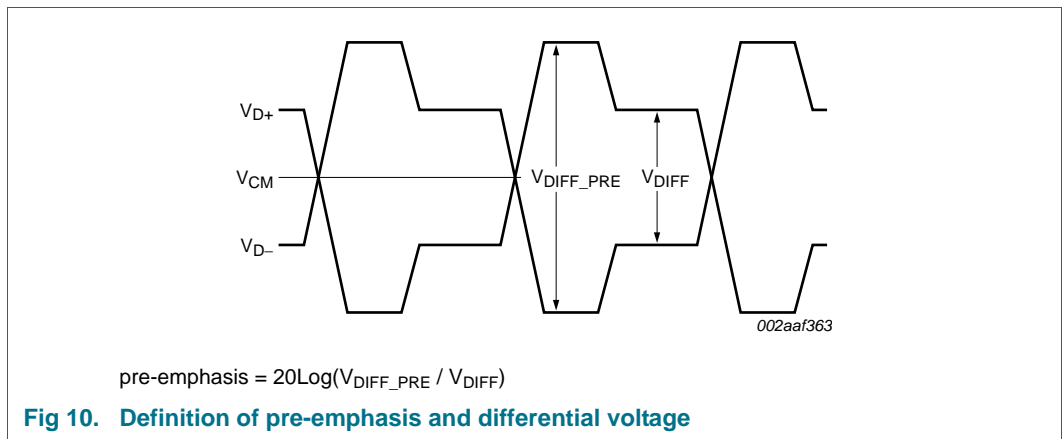

Fig 10. Definition of pre-emphasis and differential voltage
- [3] Informative; refer to Figure 10 for definition of differential voltage.